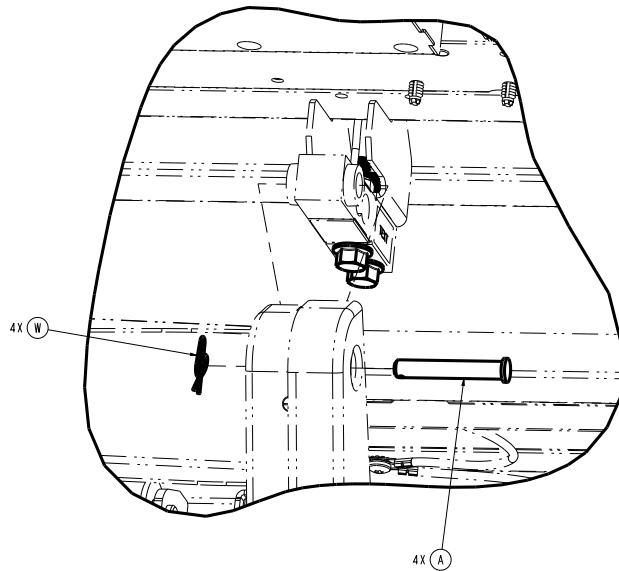

Figure 49 – Replacing the load cell
8. Using needle nose pliers, remove the rue clip (W) from the clevis pin (A) that secures the load cell to the lift mechanism (Figure 49). Save the rue clip and clevis pin.
10. Using needle nose pliers, remove the ratchet clip (W) from the clevis pin (A) that secures the load cell to the lift mechanism (Figure 49). Save the ratchet clip and clevis pin.